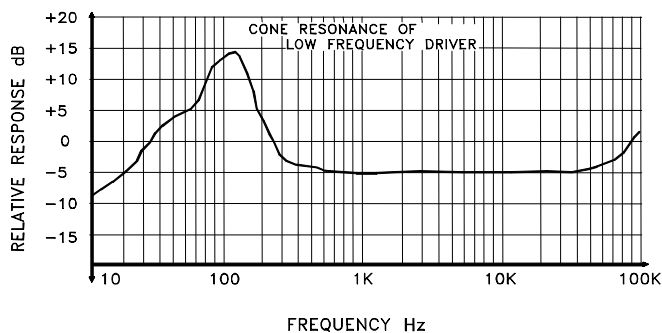

FIG 8. TESTING SPEAKER SYSTEMS AND IMPEDANCE NETWORKS.
- A. Connect equipment as shown in Test Set-Up in FIG. 8 for frequency response measurement except that the signal input to the speaker or impedance network is monitored. The oscilloscope may be used to verify that this instrument is not in a clipping condition.
- D. In speaker testing, a pronounced increase of voltage will occur at some low frequency. This is the resonance frequency of the speaker systems(FIG. 8). The speaker enclosure will modify the results obtained from the same speaker without an enclosure. A properly designed enclosure will produce a small peak on each side of the peak obtained without an enclosure. the enclosure designer can use the response characteristics to evaluate the effects of varying port sizes, damping materials and other basic enclosure factors.
- a. Connect a variable resistor in series with the impedance network as shown in FIG. 8